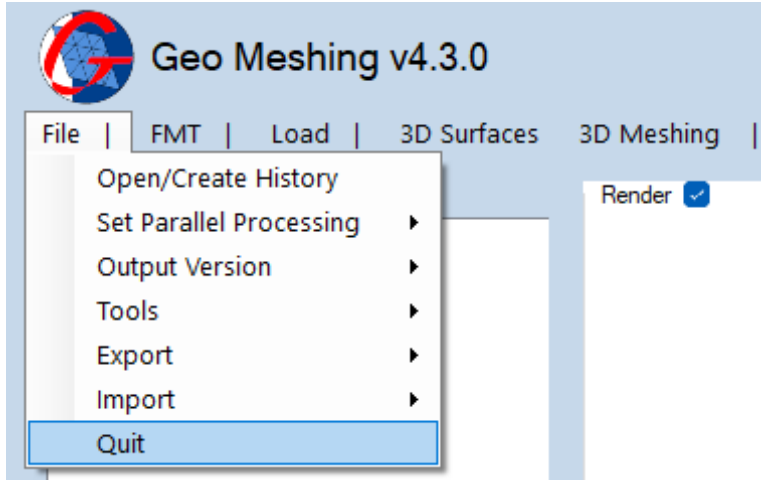

Figure 22: File Menu – Quit.
- **File Menu, Quit:** Exits from *Geo Meshing v4.3* (shown in Figure 22).